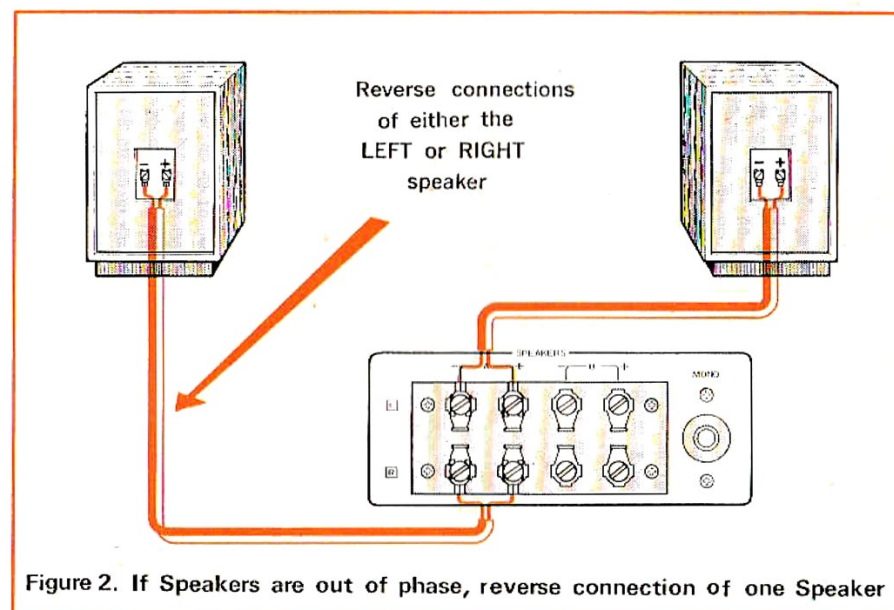

Figure 2. If Speakers are out of phase, reverse connection of one Speaker
3. Listen to the intensity of the bass tone. Then reverse the leads to either the left or right speaker and listen again. (See Figure 2). The speaker connection which results in the deepest bass reproduction is the correct one, and indicates that the speakers are then in phase.